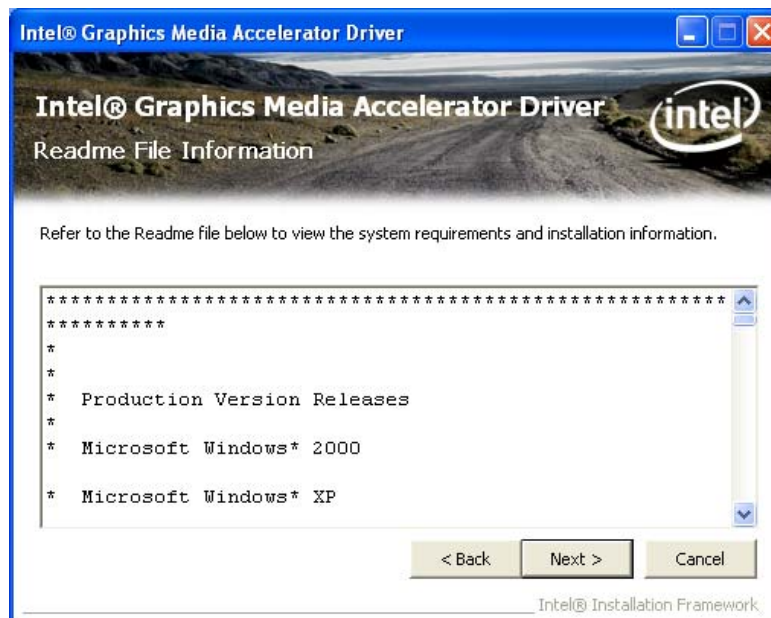

Figure 7-11: Graphics Driver Read Me File
Step 12: The **Read Me** file in **Figure 7-11** appears.